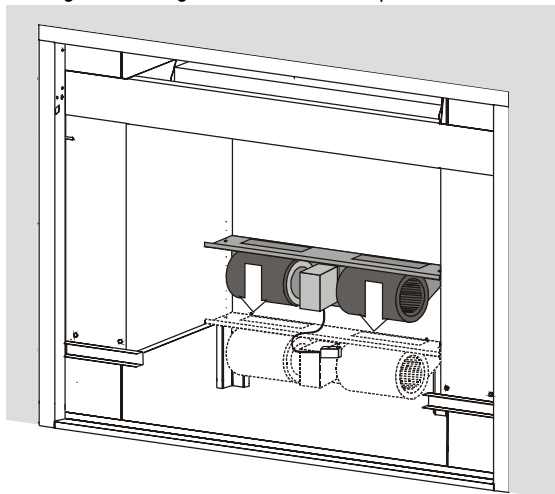

Figure 17. *Installing the blower assembly.*
7. Install the new blower assembly included with the S2 Heating Insert. The blower mounting bracket rests on the EP28 Shell's support ledges. Push the assembly back until it touches the back wall of the shell, and drive two screws through the pilot holes in the bracket. Refer to figure 17. Plug the fan into the fan speed control box.